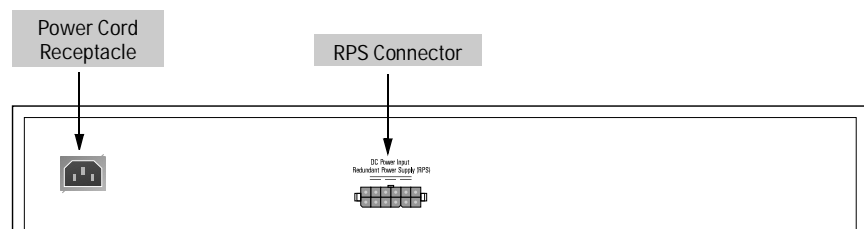

Figure D-5. Back Panel of the Switch 800T
**If you use the optional redundant power supply (RPS) do not use the power cord that plugs into the power cord receptacle (figure D-5).**